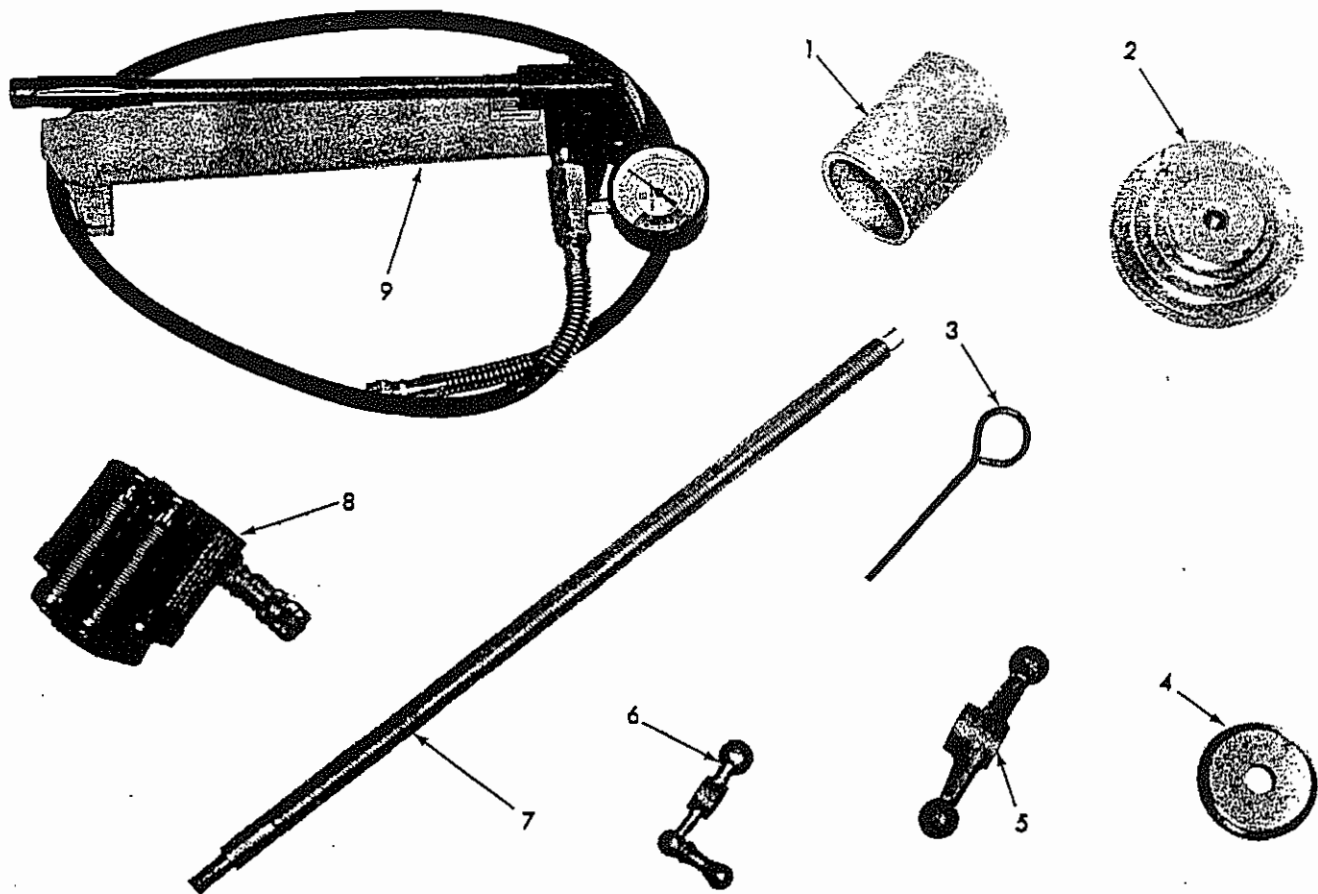
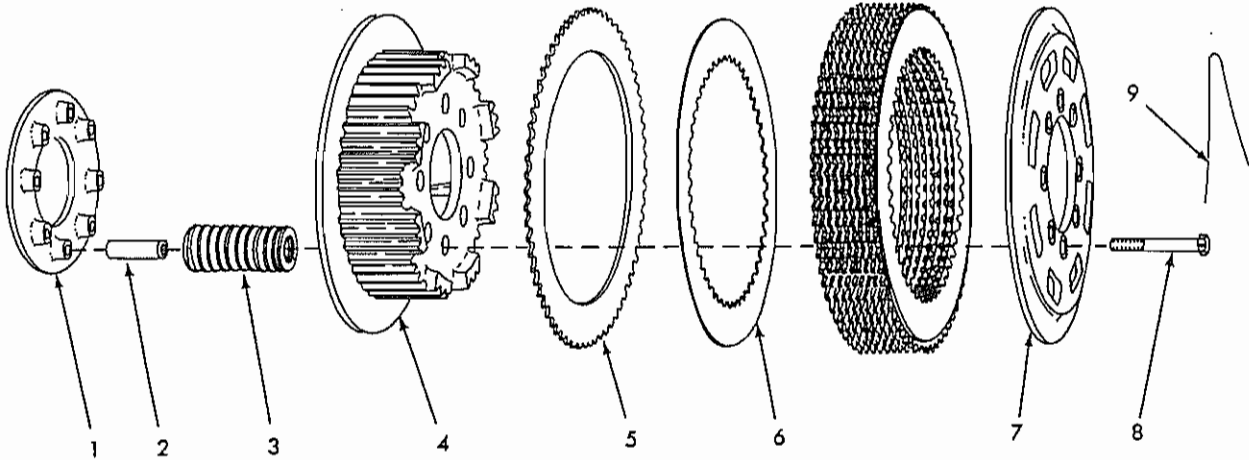

Fig. 10 -- Service Tools (AC-300 Steering Clutch Set) For Disassembling and Assembling Steering Clutches (T-20865)
Fig. 12 -- HD6 Steering Clutch Parts
2. Remove lock wires from drilled head capscrews. Refer to Figs. 10 and 11 and position
spacers from throwout plate (refer to Fig. 12 or 13).
1. Refer to Fig. 12 or 13, and place hub (flange
4. Remove all plates from hub, keep plates in their proper positions; place tool backing plate, Fig. 10 (2) on work bench; refer to Fig. 12 or 13 and position throwout plate on tool backing plate with spring bosses up.
6. Refer to Fig. 12 or 13 and install springs over bosses of throwout plate; insert spacer in each spring; place spring washer (HD11 only) on top of each spring.
hub and pressure plate and install pressure plate. Refer to Figs. 10 and 15 and place tube through center of pressure plate and down against hub. Insert forcing screw through tube and down into tool backing plate; turn screw securely into backing plate. Install tube end plate, hydraulic ram (with plain insert), and speed nut.